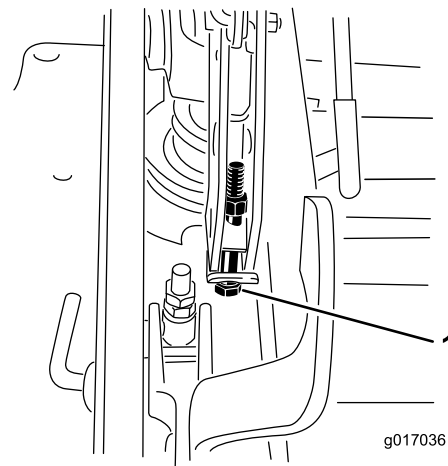

**Figure 90**
11. To adjust the single-point system, loosen the 2 bolts at the bottom of the height-of-cut plate (Figure 90).
13. Tighten the 2 bolts at the bottom of the height-of-cut plate (Figure 90). T